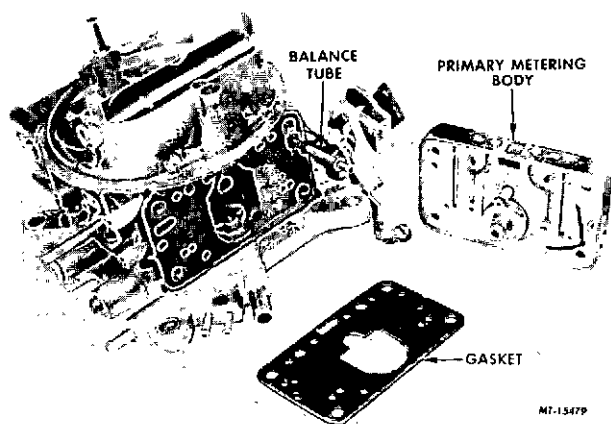

FIG. 29 Removing or Installing Primary Metering Body (with pump transfer tube)
1. If metering body and bowl gaskets were not installed previously under No. 4, describing assembly primary metering body (also secondary on model 4150), do so now. Press gaskets down firmly on dowels, not only to hold them in place but to prevent bowl gasket from interfering with the float (Figures 29 and 31).
5. Install a new "O" ring on the extreme end of each end of fuel transfer tube. Apply Vaseline lightly on "O" ring and install transfer tube into opening in primary fuel bowl. The "O" ring will roll into proper position as tube is installed (Figure 29).